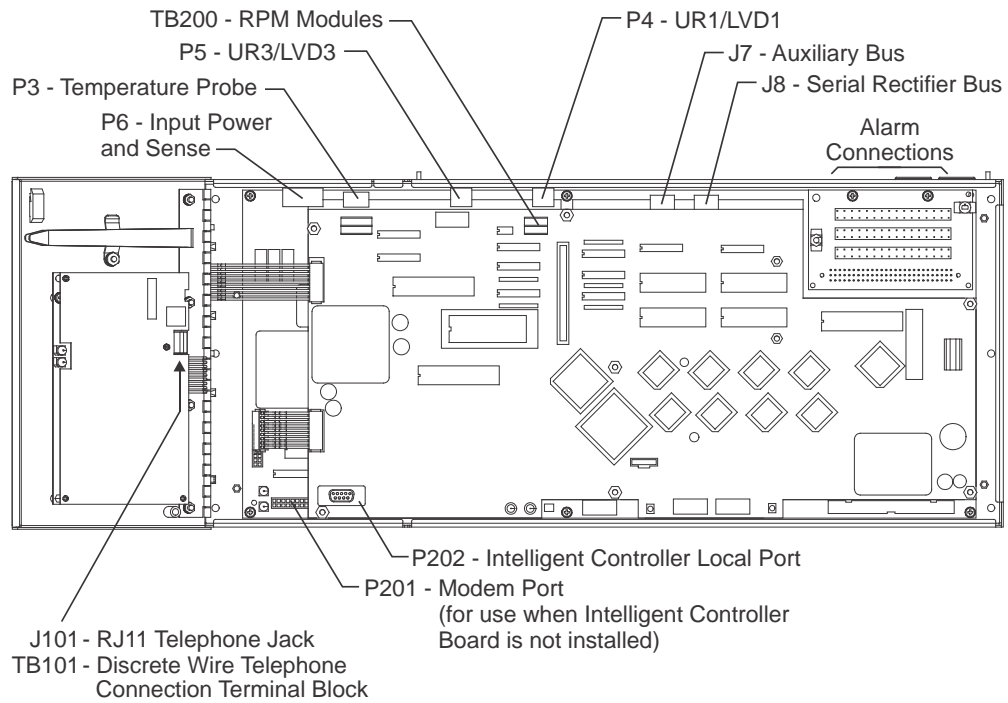
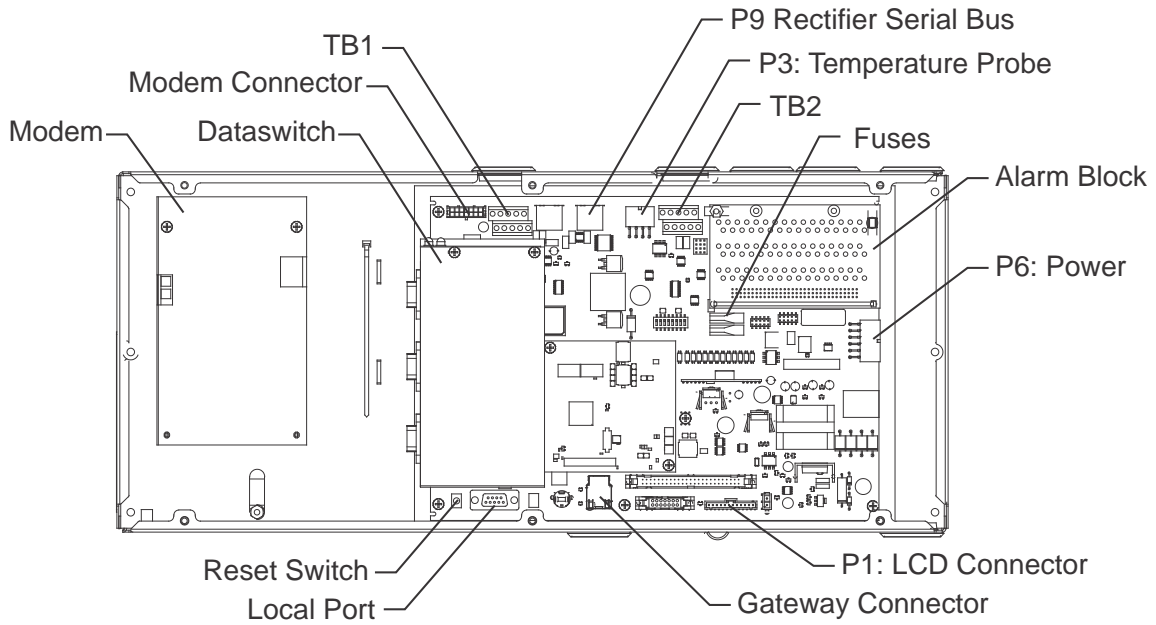

Figure 5-3 Millennium Controller Connector Locations
Figure 5-4 Millennium II Controller Connector Locations
### For Galaxy Millennium Controllers (see Fig 5-3 or 5-4)
2.	Plug the serial cable (Not included. See table below for ordering information) into Serial Rectifier Bus J8 connector of the Millennium (Fig 5-3 ) or the P9 connector of the Millennium II (Fig 5-4)